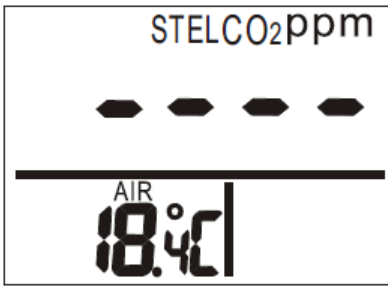

Figure 6
2. It takes at least 5 minutes to calculate STEL and TWA. The LCD shows "----" (Fig. 6) during the first 5 minutes from power on.